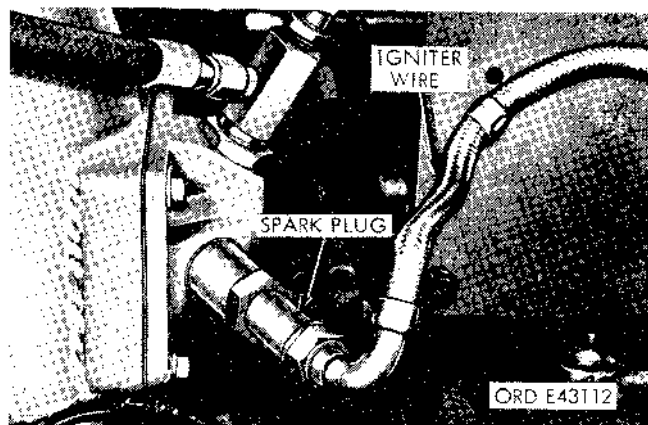

Figure 2-99. Spark plug.
(1) Disconnect the igniter wire from the spark plug, and remove the plug with the gasket from the housing (fig. 2-99).